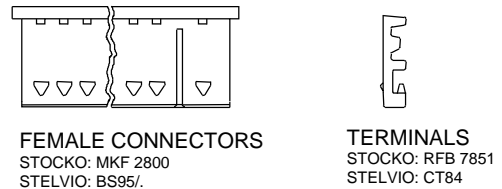
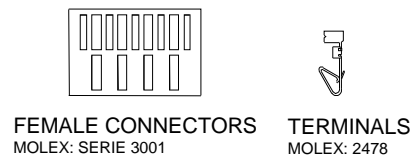

Fig.2
Fig.3
(1) : Standard connectors are stelvio-stocko type (see Fig.2).
The control units are usually supplied with a kit of female connectors (see Fig.2 and Fig.3).